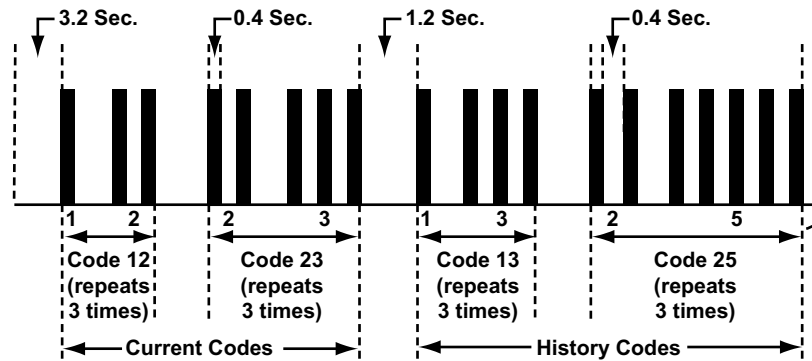

Figure 10-22 Isuzu ABS Code Type 05a
- Type 05a, see Figure 10-22 and Table 10-7 on page 92